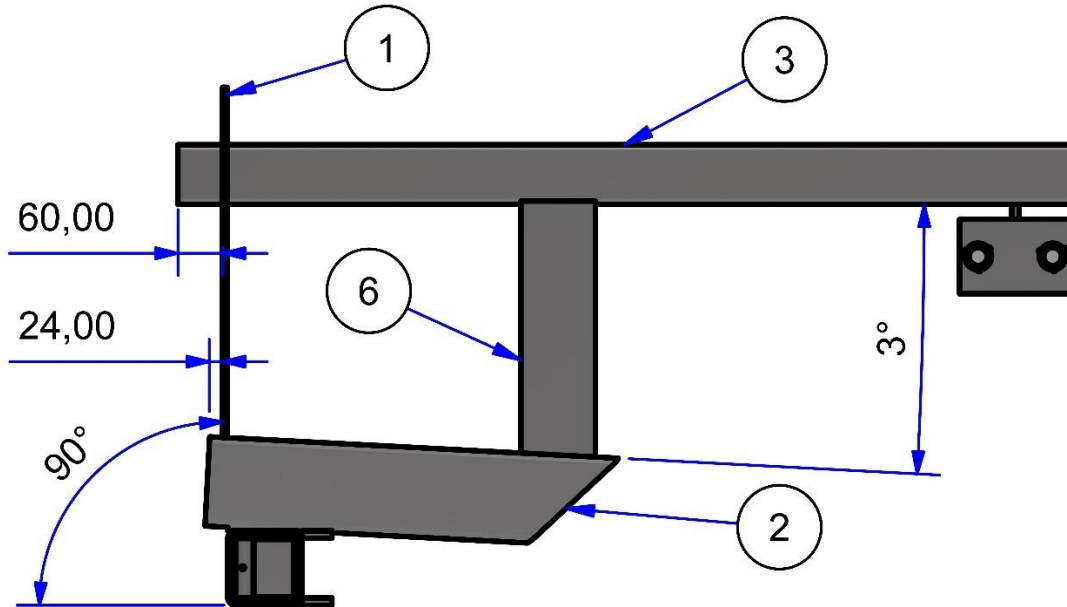

Figure 13 (Box Section Supports with Angles)
1. Cut two 100 x 100 box section uprights (Item 6) to suit then weld in position as illustrated Figure 13 and 14